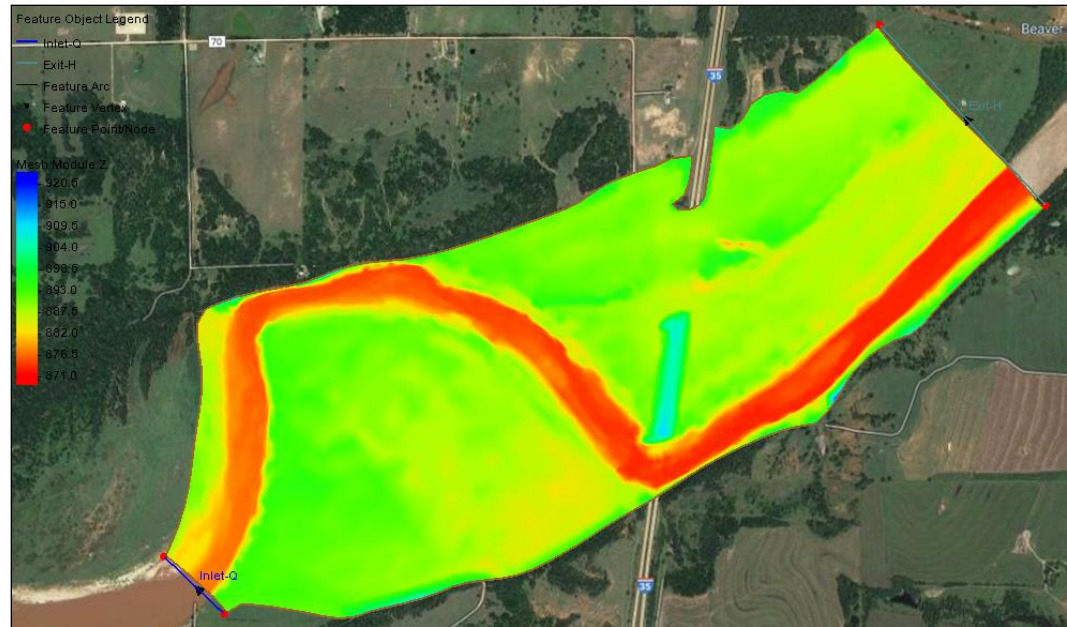

Figure 1 Initial project
The project should appear similar to Figure 1. The project has multiple simulations with different boundary condition coverages assigned to each simulation. The tutorial will go through the different simulations to show how changing the boundary condition properties effects the model.
1. **Zoom**  in near the downstream boundary on the right side of the model (labeled “Exit-H” in Figure 1).